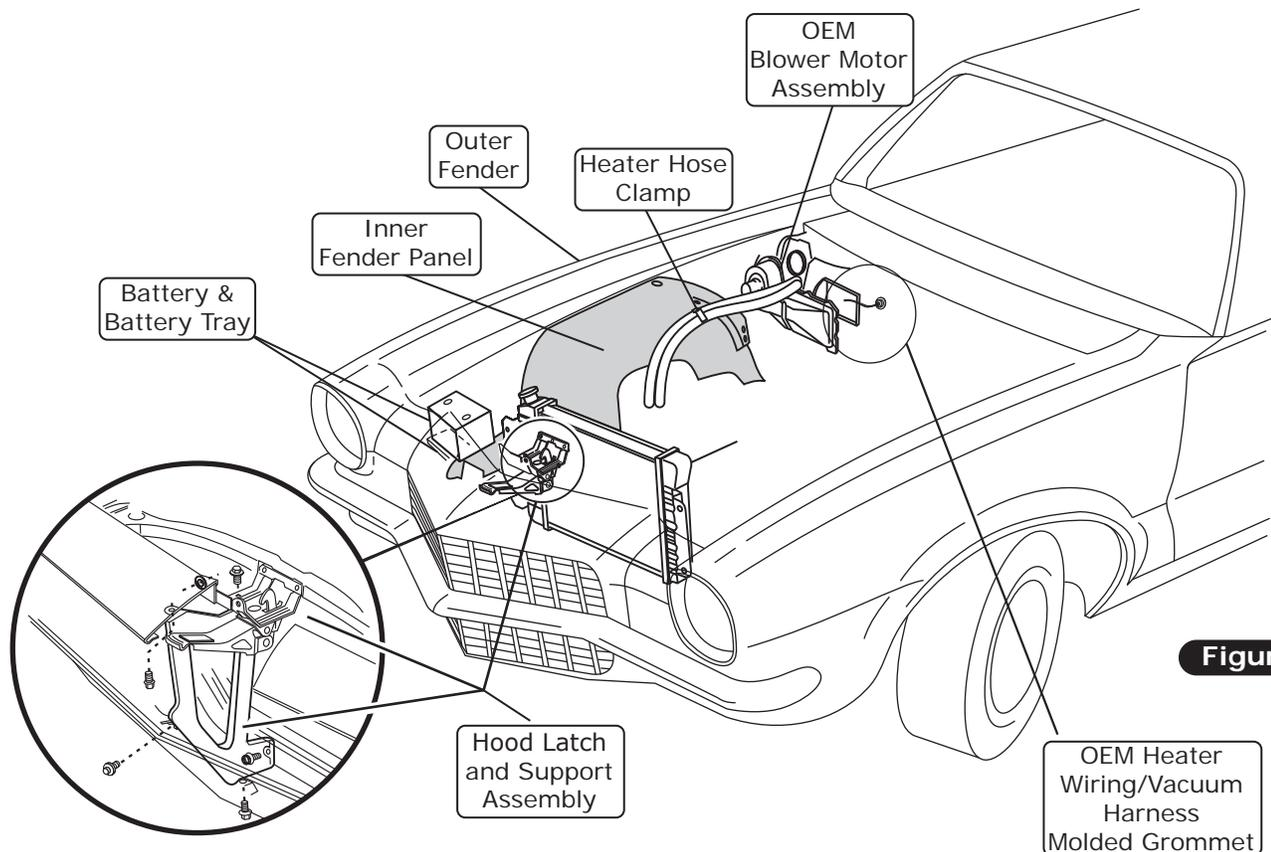

Figure 1
1. Remove the battery and battery tray (retain) (See Figure 1, below).
4. Remove the heater blower motor assembly (discard). **NOTE:** To remove the heater blower motor assembly (under hood) and the air distribution system (under dash), remove the inner fender (See Figure 1, below).
5. Remove the OEM heater hoses (discard) (See Figure 1, below).
6. Remove the OEM heater wiring/vacuum harness molded grommet (See Figure 1, below).